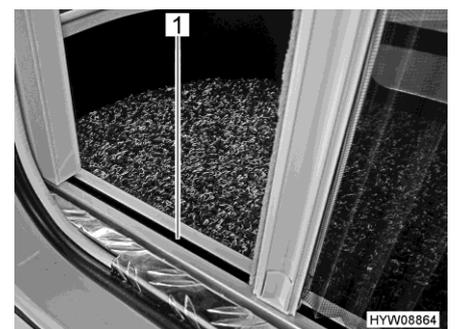

Fig. 54 Insect screen (bottom guide)
- ▷ Hold holding bar with both hands when closing or opening. This reduces the risk of the insect screen getting stuck in the guides (Fig. 54,1).